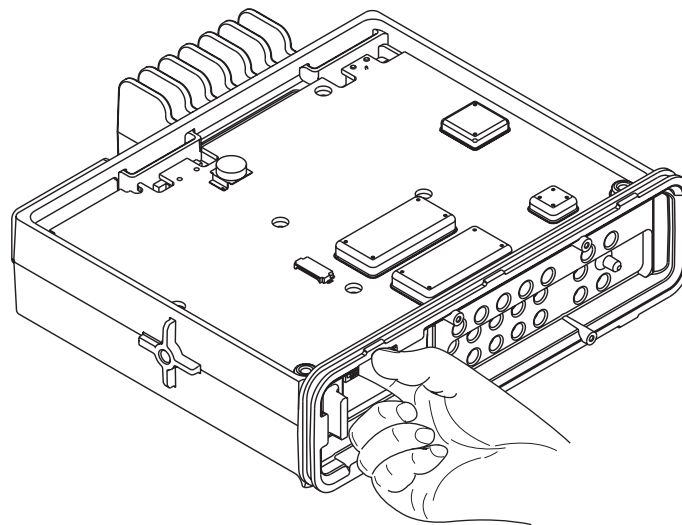

Figure 5-10. Transceiver Board Removal
5. Remove the transceiver board by sliding a finger into the opening provided at the front of the radio and gently press up on the 30-pin connector, lifting up the front of the board, as shown in Figure 5-10. Then, slide the transceiver board towards the front of the radio to allow the RF/DC connectors to clear the chassis. Handle the transceiver board by the edges only and store it in an antistatic bag.